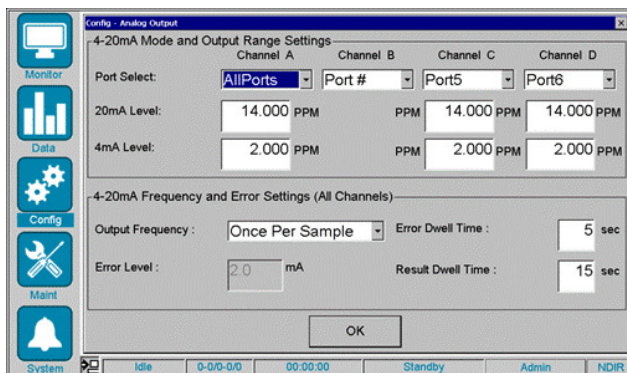

Figure 5.3 Config - Analog Output: Analog 0 and Analog 1
The 9220 provides four (4) channels of 4-20mA analog output, which can be used to indicate either TOC sample concentration or sequence port number, depending on how they are configured by the operator. These Analog Output settings can be configured by accessing the **Config** → **Analog Output** screen (Figure 5.3).